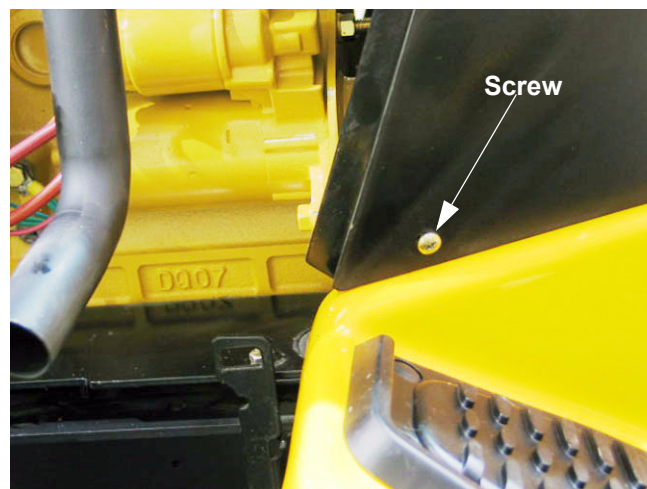

Figure 1.16
- 1.16. Remove the two phillips head screws that secure the lower rear corners of the dash panel. See Figure 1.16.